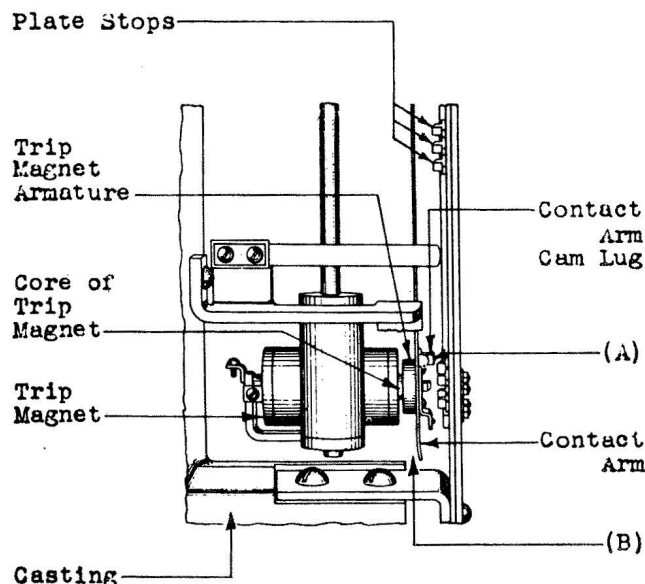

Fig. 9 - Clearance Between Contact Arm and Casting
2.08 Contact Arm Tension - Fig. 9 (A): With the pendulum in its normal position, the tension required to force the armature on the contact arm against the core of the trip magnet shall be:
2.09 Clearance Between Contact Arm and Casting - Fig. 9 (B): With the trip magnet energized, the clearance between the lower end of the contact arm and the casting shall be: